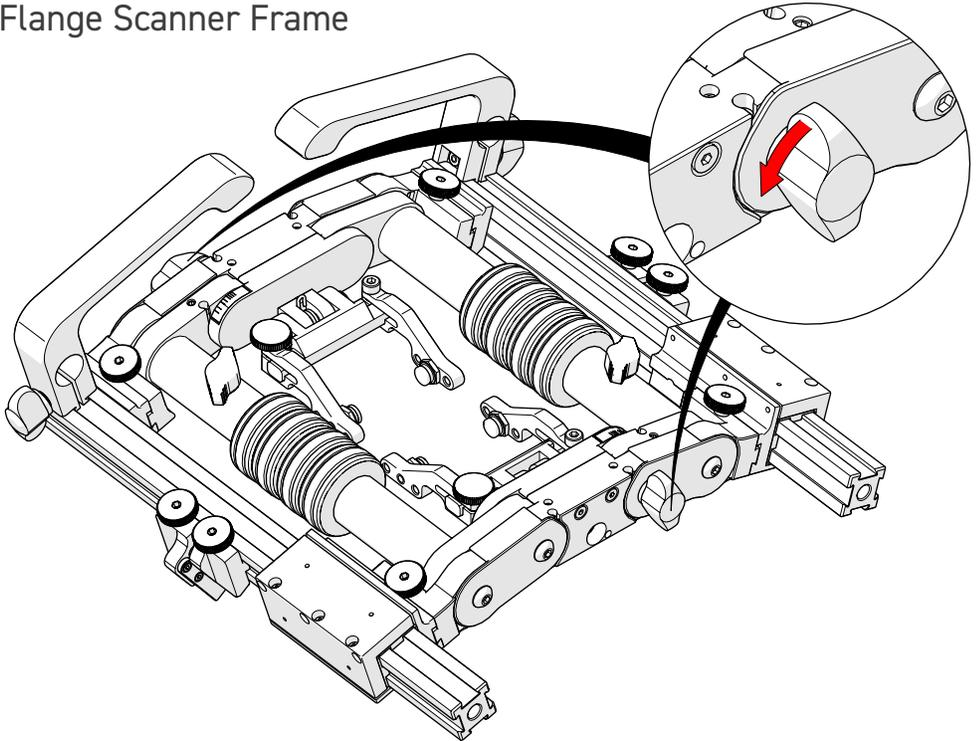

Fig. 13 - Loosen black wing knobs to loosen the flange scanner's pivot
1. Loosen the two black wing knobs on the sides of the articulated side frame (Fig. 13).